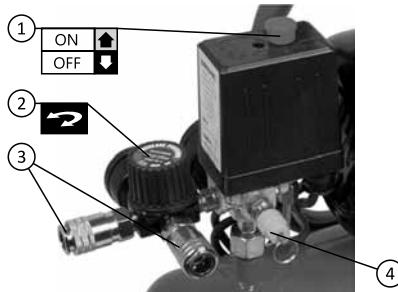

Fig. 4. Regulation of membrane switch startup and adjustment of pressure with reduction valve
4. Open the output valve, put the membrane switch button in the position "ON" (*Fig. 4*) and start the compressor idling for 10 minutes, to make sure that all the moving parts are lubricated enough before the next operation.
6. Pressure of the compressed air at the output may be adjusted by the reduction valve. Pull up the roller of the reduction valve at 81-140, (at other compressors one need not pulling the roller up) and revolve it clockwise to increase the pressure (Fig. 4).